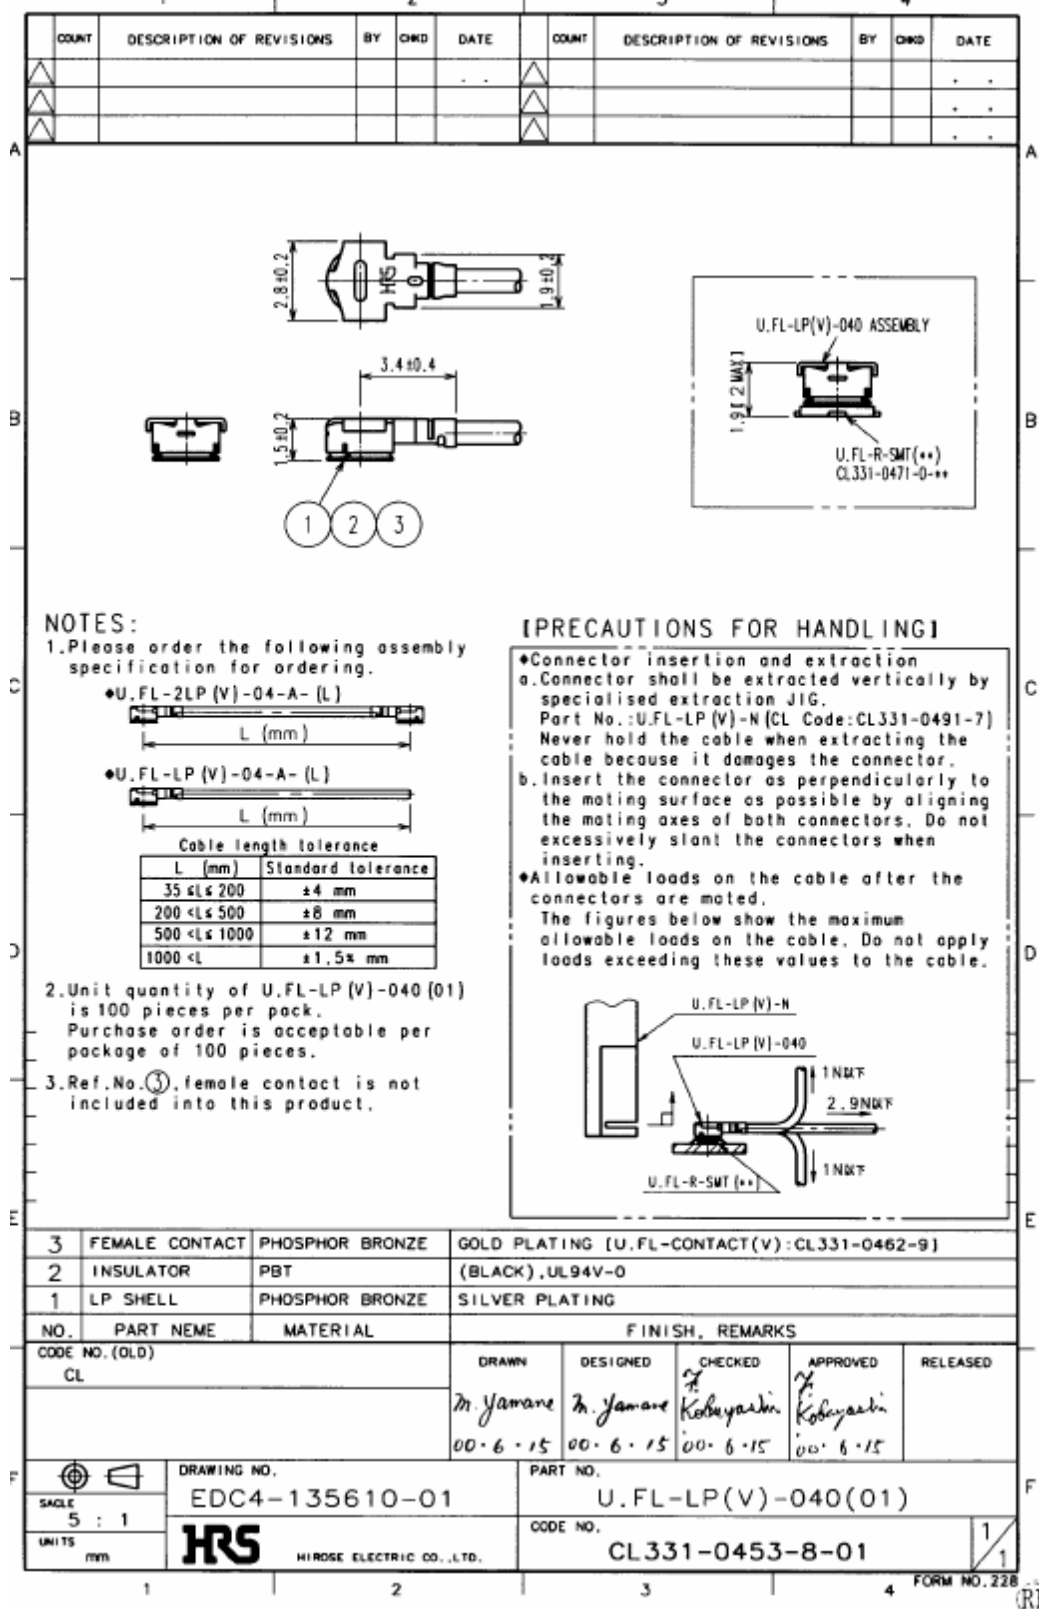

Figure 38: Specifications of U.FL-LP-(V)-040(01) plug
In addition to the connectors illustrated above, the U.FL-LP-(V)-040(01) version is offered as an extremely space saving solution. This plug is intended for use with extra fine cable (up to  $\varnothing 0.81\text{mm}$ ) and minimizes the mating height to 2mm. See Figure 38 which shows the Hirose datasheet.